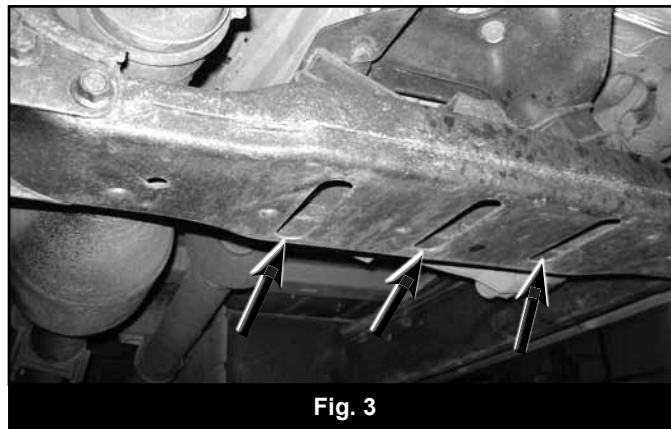

Fig. 3
8. Disconnect the transmission mount from the transmission crossmember (3 nuts). Retain nuts. (Fig 3)